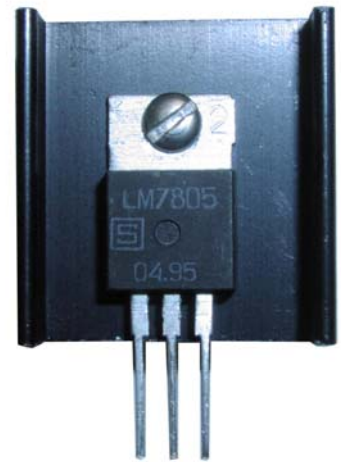
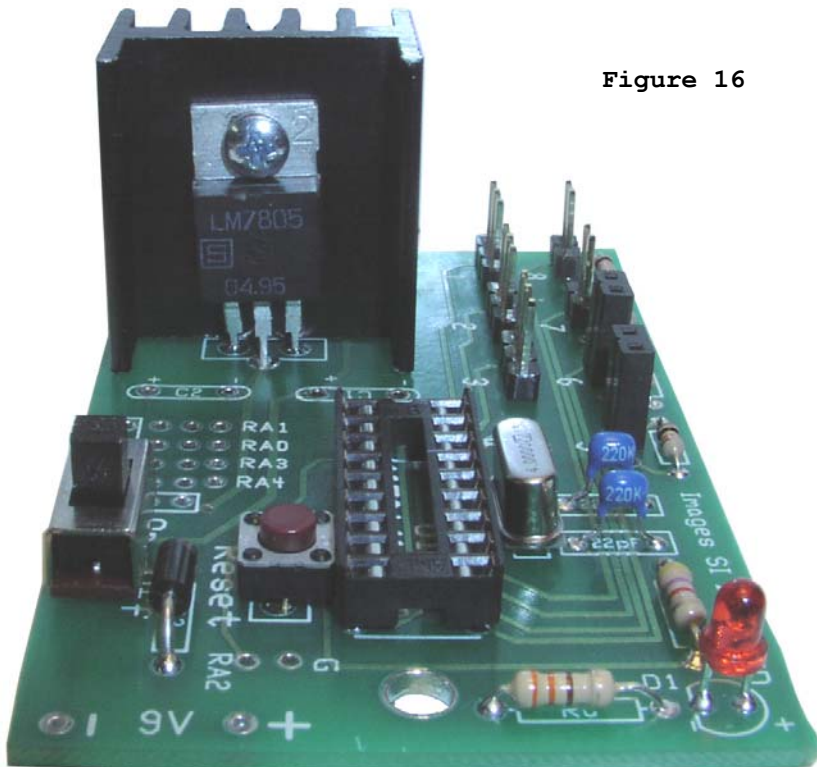

Figure 15
Figure 16
Continue to mount and solder components on to the pcb. 4 MHz crystal, 4.7K ohm 1/4 watt resistor (R5), (2) 22 pF capacitors. When mounting the Red diode, the longer lead is (+). Resistor R6 is a 330 ohm 1/4 watt, on-off switch and push button reset switch. Mount the 7805 voltage regulator to the heat sink, see figure 15, before mounting the 7805 to the pcb, see figure 16. Use the 5-40 x 3/8 screw to mount the 7805 to the heat sink. Next add capacitors C1, C2 and 9V battery cap. Finish circuit by mounting the pre-programmed microcontroller IC into the 18-pin socket.